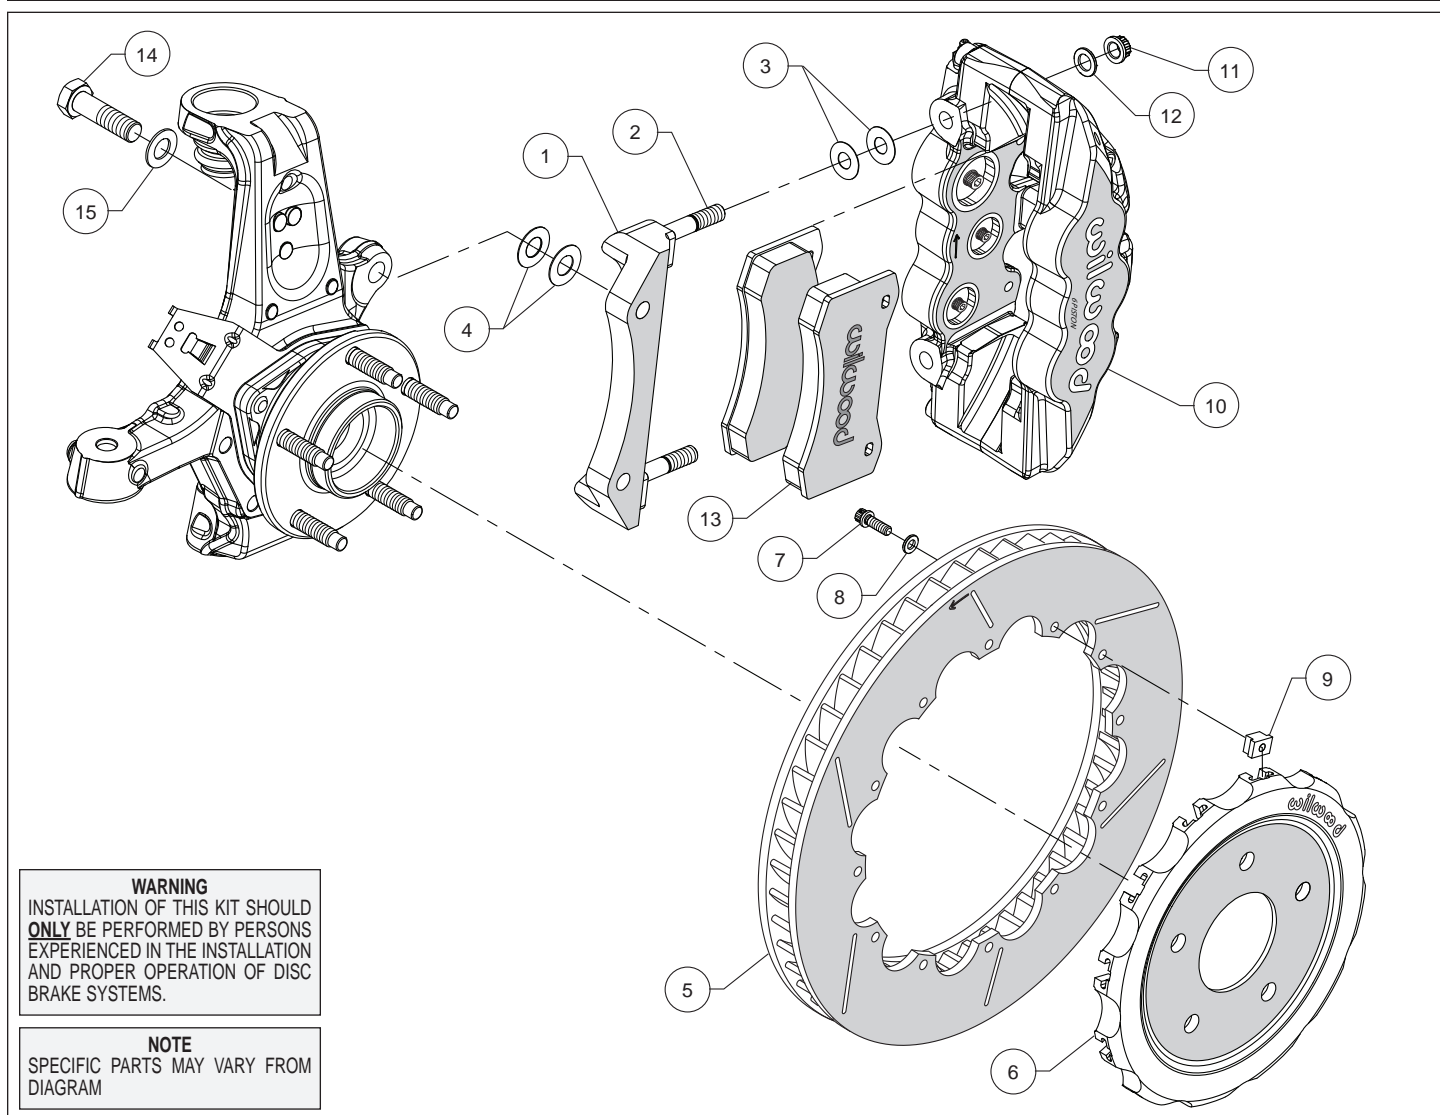
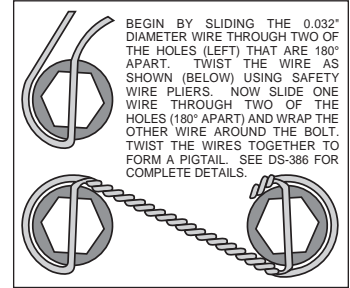

Figure 1. Typical Installation Configuration
Figure 3. Safety Wire Diagram
Assembly Instructions (numbers in parenthesis refer to the parts list and Figure 1 on the preceding pages):
- The caliper mount bracket (1) should initially be installed with clean, dry threads on the mounting bolts. Orient the bracket, as shown in Figure 1 and install using bolts (14) and washers (15). Initially place two .029" thick shims (4) on each bolt between the bracket and upright, Figure 1. Temporarily tighten the mounting bolts. **NOTE:** *The bracket must fit squarely against the mount bosses on the upright.* Inspect for interference from casting irregularities, machining ridges, burrs, etc. Later, after the caliper alignment has been checked, the mount bolts will be secured using red *Loctite*® 271.
- Orient the rotor (5) and the hat (6) as shown in Figure 1 and Photo 1. Assemble using bolts (7), washers (8), and t-nuts (9), Figure 1. Follow additional instructions included with the bolt kit. Using an alternating sequence, apply red *Loctite*® 271 to the threads, and torque to 120 in-lbs. For an added measure of security, the bolts may be safety wired using standard 0.032 inch diameter stainless steel safety wire as shown in Figure 3. Refer to Wilwood's data sheet DS-386 (available at www.wilwood.com/Pdf/DataSheets/ds386.pdf) for complete safety wire installation instructions.
- NOTE:** *This kit contains distinct right and left hand calipers that must be mounted in a specific direction, as described below.* Lubricate the caliper mounting studs (2) with lightweight oil. Initially place two .016" thick shims (3) on each stud between the caliper and the bracket, as shown in Figure 1 and Photo 2. Mount the caliper (10) onto the bracket (1) using lock nuts (11) and washers (12), Figure 1. Temporarily tighten the lock nuts. Ensure that the caliper is mounted so the largest pistons are at the rotor exit end of the caliper, in relation to the direction of the rotor. View the rotor through the top opening of the caliper. The rotor should be centered in the caliper, Photo 3. If not, adjust by adding or subtracting shims (4) between the bracket and the upright. Always use the same amount of shims on each of the two mounting bolts. Once the caliper alignment is correct, remove the bracket mounting bolts one at a time, apply red *Loctite*® 271 to the threads, and torque to 77 ft-lbs.
- Remove the two pad retaining pins from the caliper (10) by carefully popping out the pin retaining clips and sliding out the pins. Insert the brake pads (13) into the caliper from the bottom, Figure 1 and Photo 4. With the friction material facing the rotor, secure the brake pads in place with the pad retaining pins and clips, Photo 5. Reinstall the caliper onto the caliper mounting bracket and temporarily tighten the lock nuts. Check that the top of the brake pad is flush with the outside diameter of the rotor, Photo 6. If not, adjust by adding or subtracting shims (3) between the caliper and the bracket. After the caliper pad height is set, torque the caliper lock nuts (11) to 47 ft-lb.